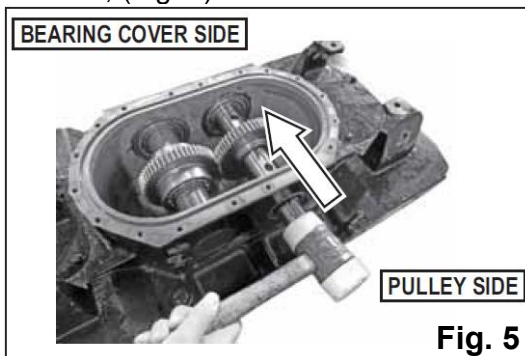
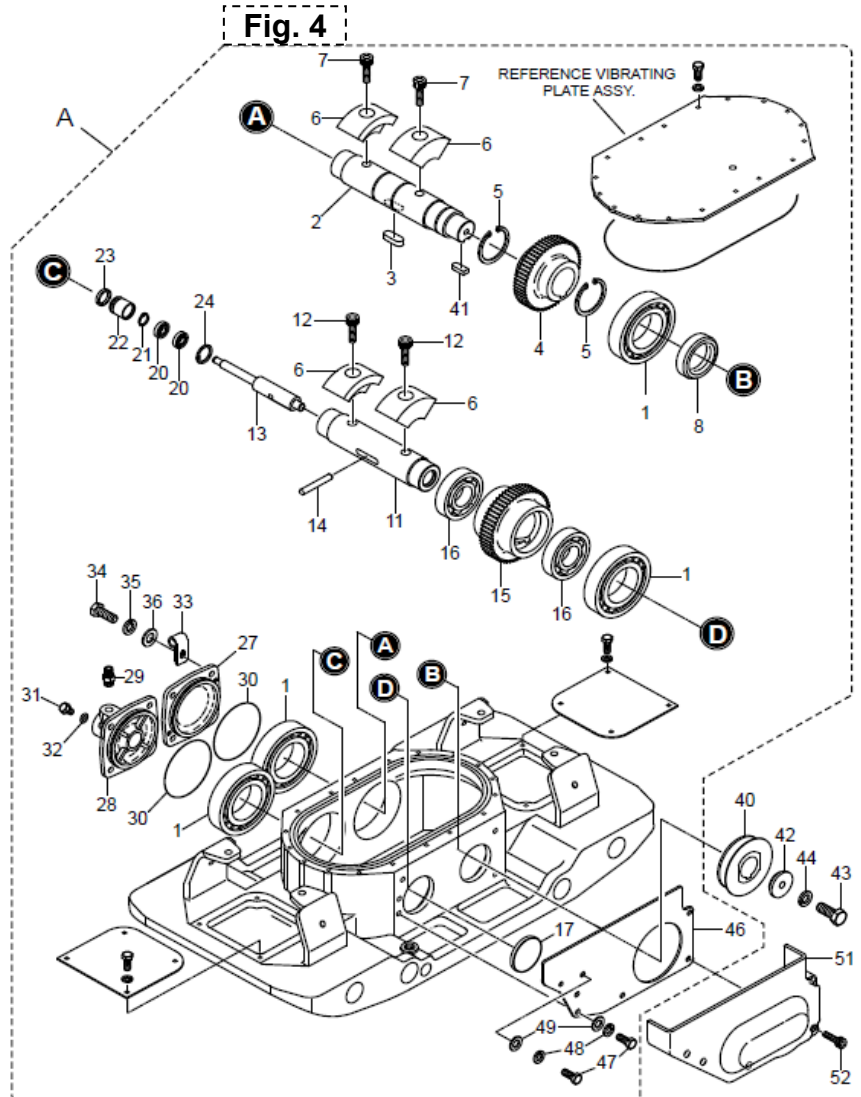

Fig. 5
Fig. 4
- 1) Reference (item numbers) in parts illustration, (Fig. 4).
- 2) Remove 2 screws (7), then remove 2 eccentric rotators (6).
- 3) Remove 5 screw (52), then remove belt cover, lower (51).
- 4) Remove 1 screw (43), then remove vibrating pulley (40).
- 5) Remove 4 bolts (34), then remove bearing cover (27) and O-ring (30). When removing the bearing cover, use the bearing cover threaded holes for removal.
- 6) Hit the pulley end of the drive shaft (2) with a plastic hammer to drive it out the bearing cover side, remove the outer bearing at outer bearing cover side, (Fig. 5).